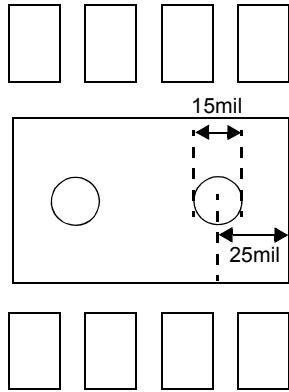

Figure 39. Two Through-Hole Open Vias Embedded in DAP
3. The IN, OUTs, and GND pins dissipate most of the heat generated during a high-load current condition. The layout suggested in Figure 39 illustrates a proper layout for devices in MLP 3x3mm packages. IN, OUTs, and GND pins are connected to adequate copper so that heat may be transferred as efficiently as possible out of the device. The low-power FLAGB and ON pins' traces may be laid-out diagonally from the device to maximize the area available to the ground pad. Placing the input and output capacitors as close to the device as possible also contributes to heat dissipation, particularly during high load currents.